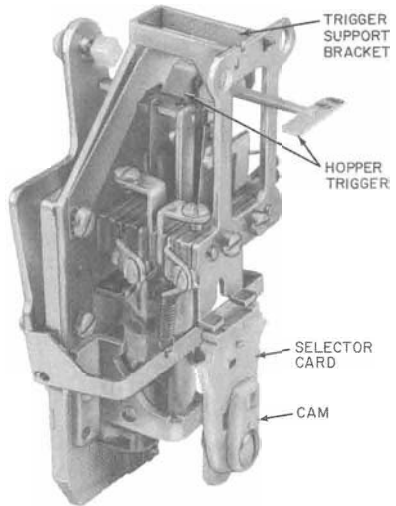

Fig. 24—Coin Relay
(3) Remove two hex head screws on sides of coin relay.
(4) Check that hopper trigger (Fig. 24) is in horizontal (up) position and pull off coin relay. **Do not damage hopper trigger.**
- (4) Move coin relay forward until square stem on vane enters hole in cam and mounting screw holes line up.
**Note:** Do not attempt to install relay if trigger support bracket (Fig. 24) is so distorted that mounting holes do not engage hopper bosses.
- (5) Place and tighten evenly two mounting screws in top of coin relay and two hex head mounting screws in each side of relay.
- (6) Make sure that trigger, armature, trap, and vane operate without binding.
- (7) Reconnect (Y) lead to terminal G and (BK) lead to terminal 3.